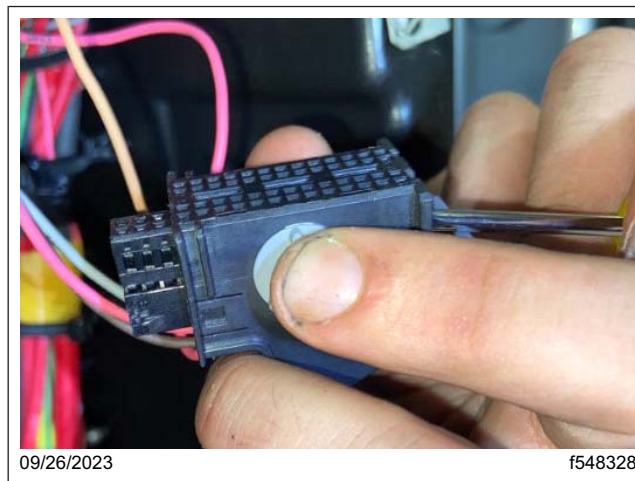

Fig. 51, Pushing Out the Black Terminal Bank
20. Once the black terminal bank has cleared the locking tab, use the screwdriver on the opposite end and push the rest of the way out of the X2 connector. See Fig. 51 .